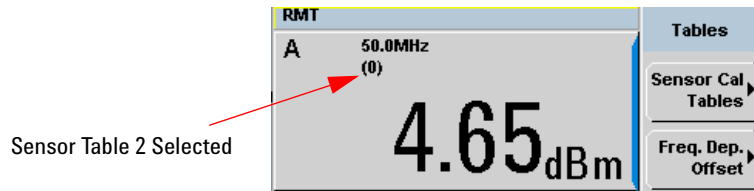

Figure 8-142 Frequency dependent offset indicator
- 4 Press **Done** again to display the measurement screen. Figure 8-142 shows which offset table is selected.